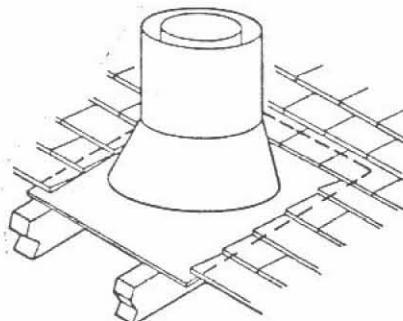

Figure 34
Step 7: Secure flashing by nailing along perimeter into roof using 8d nails. If shingled roof, slide upper end and sides of flashing under shingles (trim if necessary) (Figure 34), seal the top and both sides of the flashing to the roof with roof caulking. Cover nail heads with roof caulking.